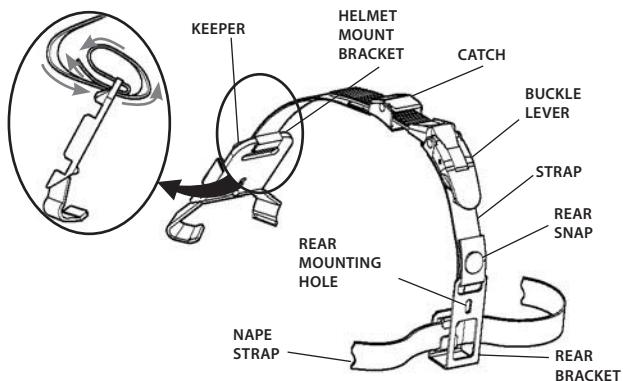

Figure 3-11. Installation of Helmet Mount
((1) Remove the helmet mount from the carrying case. Refer to Figure 3-11 for helmet mount features.